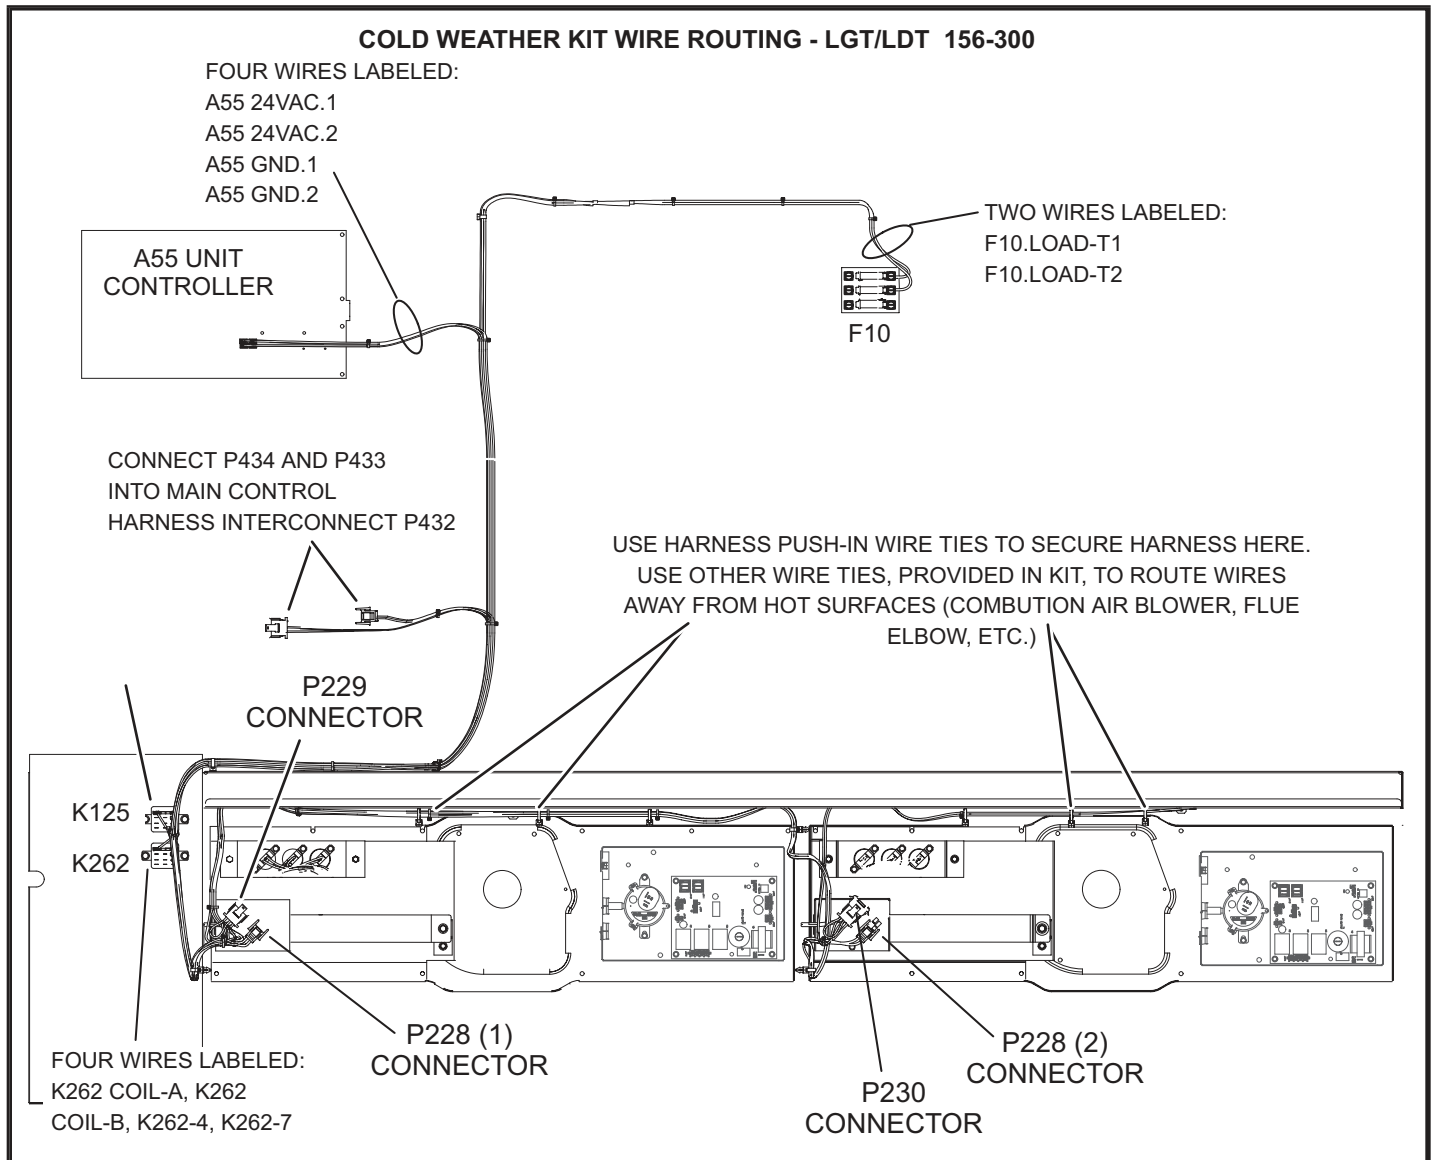

FIGURE 21
See figure 21 to connect control harness leads labeled:
- 3 - Install both relays as shown in FIGURE 21. Secure with #8 screws.
- 4 - Locate harness labeled 108303-01. Route as shown in FIGURE 21. Secure with wire ties. Discard unused harnesses.
- 5 - Make wire connections as shown in FIGURE 21.